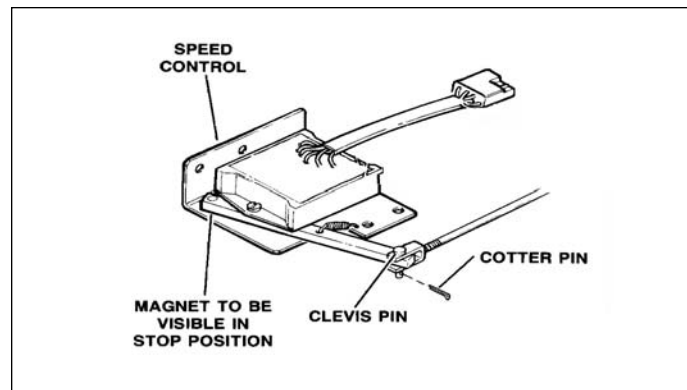

Figure 34 - Speed Control Adjustment
- Replace pins. See Figure 34.